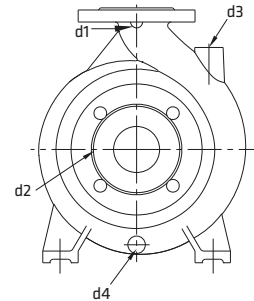

Figure 4
- Every pump is fitted with connections on the pump casing to drain the pump (**Figure 4**). If required the pump drain can be piped to a suitable reservoir. The pump draining piping must be fitted with an isolating valve and both must be suitable for the maximum operating pressure of the pump.